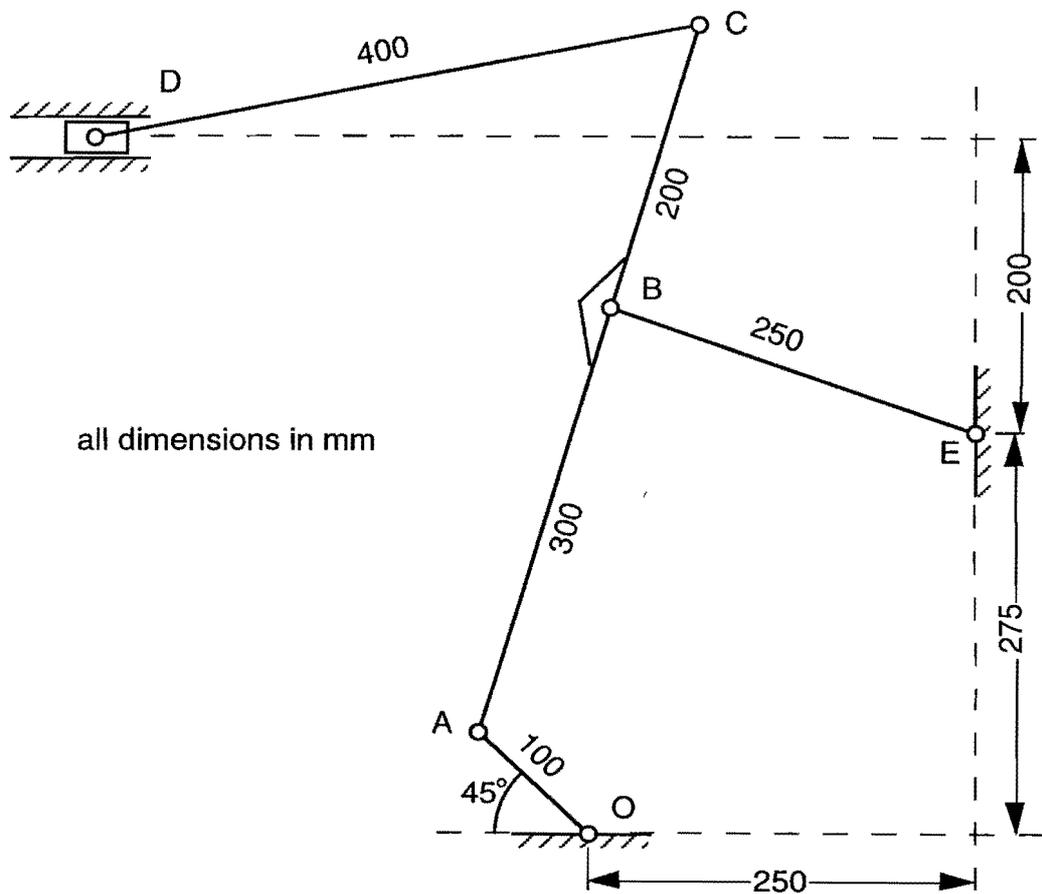

Figure 1
1. The crank  $OA$  of the mechanism in Fig. 1 rotates anticlockwise at 5000 rpm. Link  $ABC$  is a continuous rigid link pinned to the link  $BE$  at  $B$ . By drawing a velocity diagram, determine the velocity of the ram  $D$  in the given position and the angular velocities of the links  $ABC$ ,  $EB$  and  $CD$ .
Fig 1 is drawn approximately to scale. The suggested scale for the velocity diagram is 1 mm to represent  $1 \text{ ms}^{-1}$ . Locate the instantaneous centres for  $ABC$  and  $CD$  on the space diagram.
4. (a) The ram D in the mechanism shown in Fig. 1 is *opposed* by a force of 1 kN.